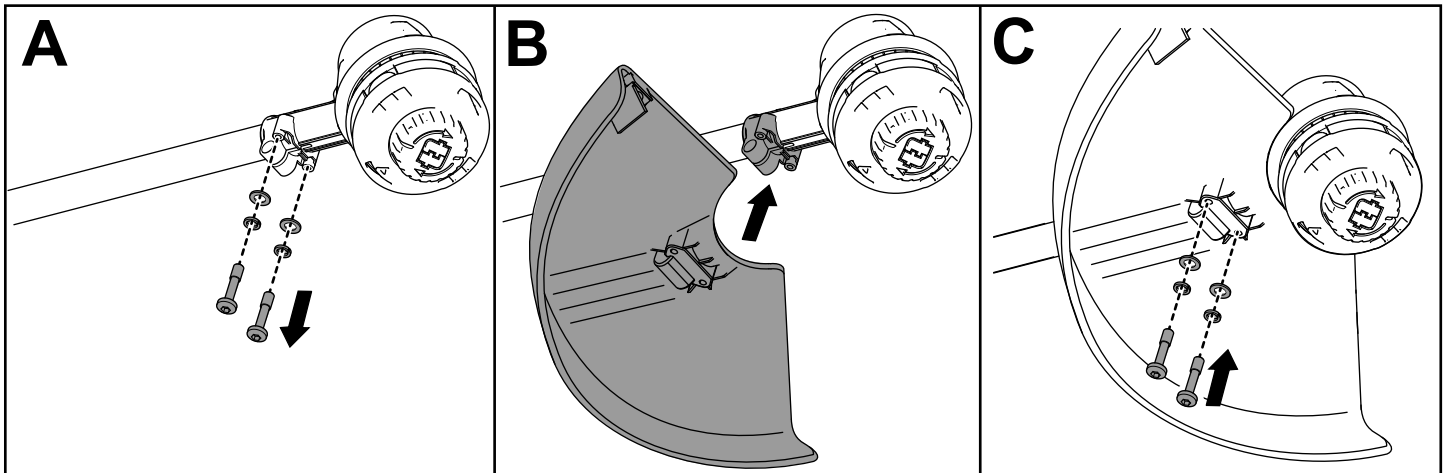

Figure 5
1. Using the provided Allen wrench, remove the 2 socket head screws, 2 washers, and 2 spacers from the trimmer base (A of Figure 5).
2. Align the guard onto the trimmer base (B of Figure 5).